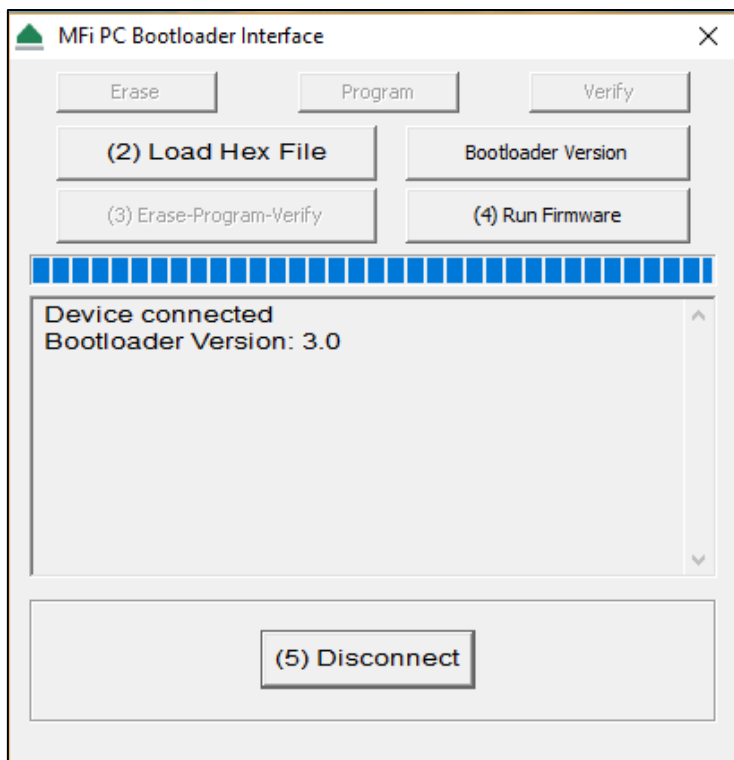

Fig.10
4. Select Tools > Run Bootloader Control, which will then open up the Bootloader control interface window as seen in Fig.10.